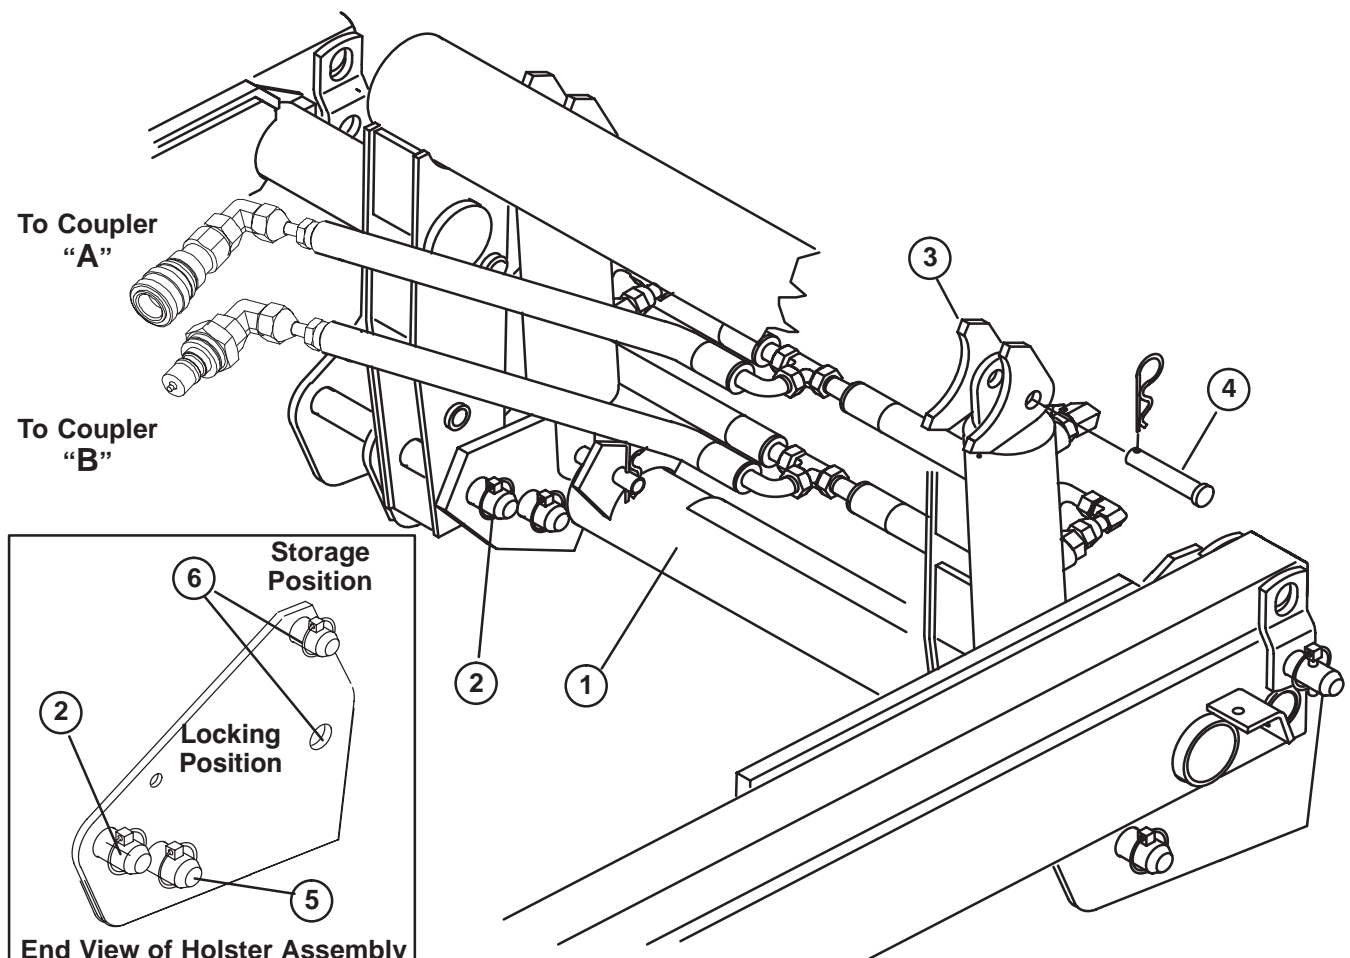

Figure 1
2. Secure each side of holster assembly to hitch frame with a holster mounting pin and (2) lynch pins, as shown in figure 1.
3. Secure each hydraulic cylinder to hitch frame with a cylinder mounting pin and pin hair pin cotter (Fig. 1).
4. Secure lift arm locking pins in storage or locking position with (2) lynch pins (Fig. 1, inset).